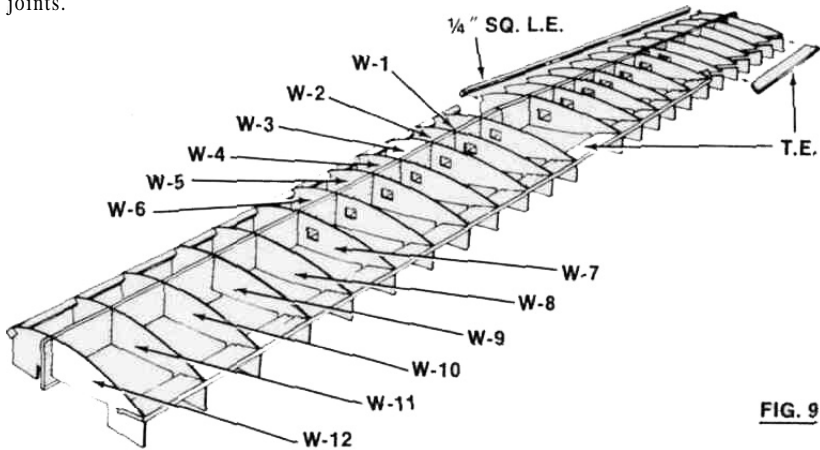

**FIG. 8**
12. Pin Tri-Aids to plan in pairs to support mainspars. Slip spars W-18 between Tri-Aids but do not pin to Tri-Aids or to plan. Glue spars together at center joints only. See Fig. 8.